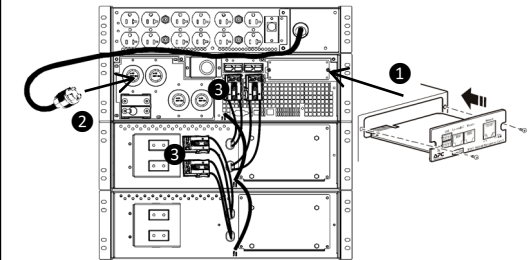

Figure 2
**STEP 2:** Install UPS accessories (Figure 2):